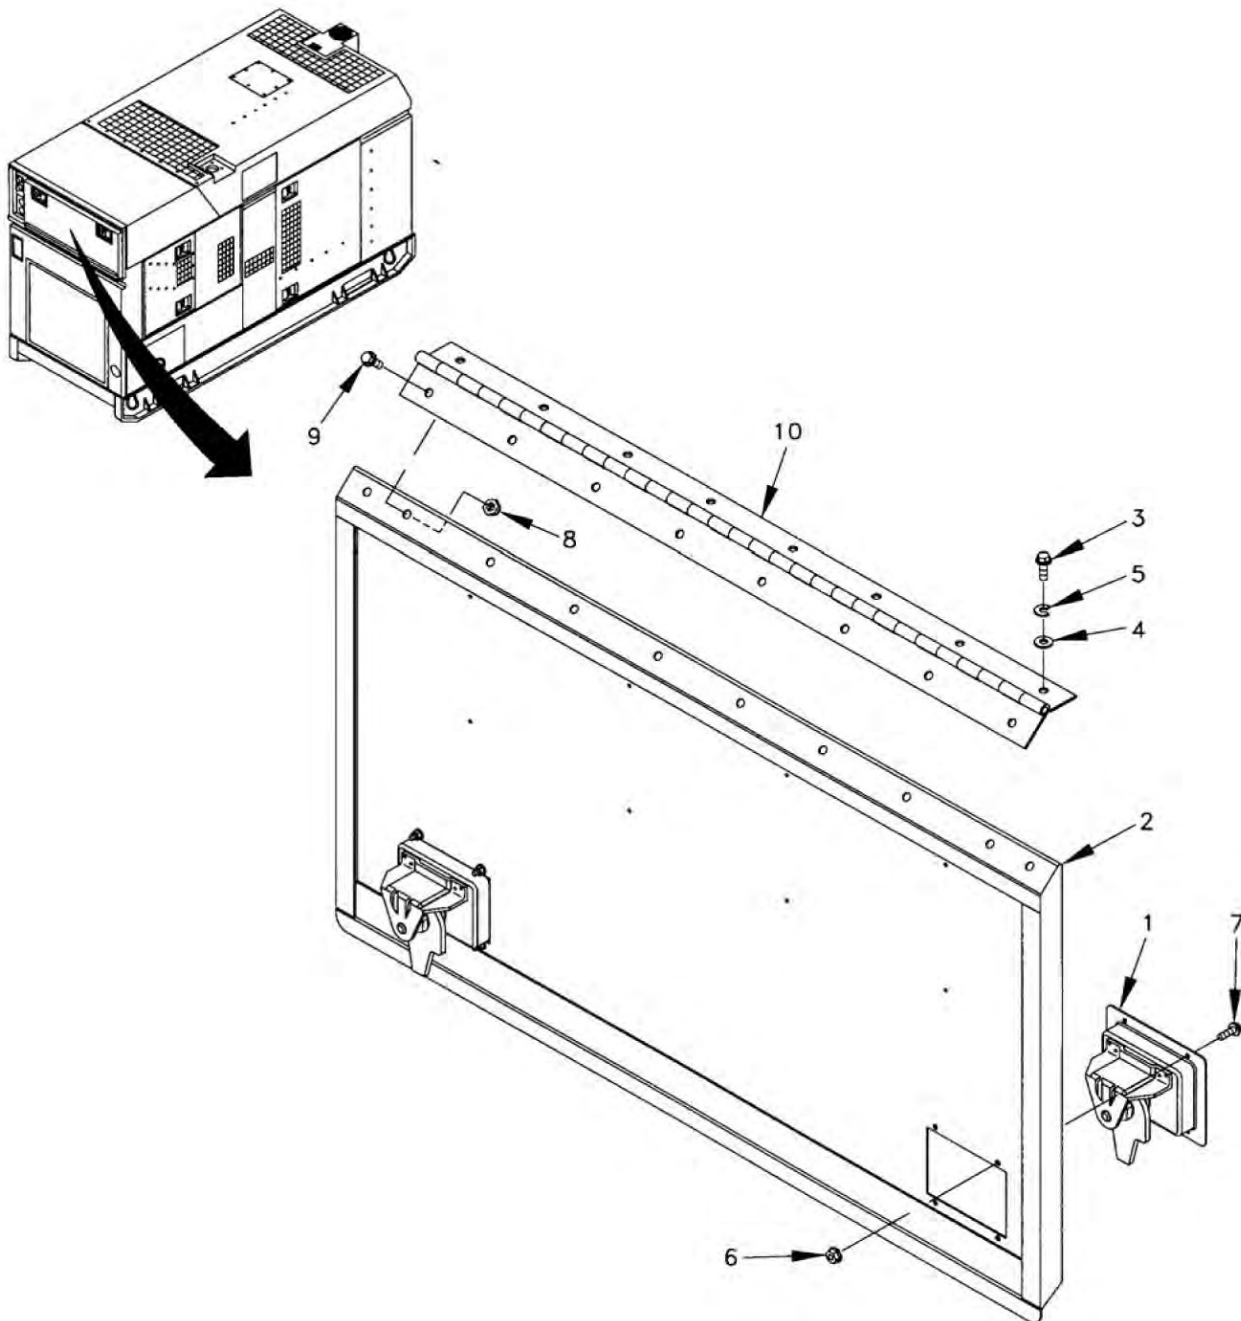

Figure 1. Control Box Door Assembly.
1. Turn two latches (Figure 1, Item 1) and open control box door (Figure 1, Item 2).
2. Remove eight screws (Figure 1, Item 3), washers (Figure 1, Item 4), lock washers (Figure 1, Item 5), and control box door and hinge (Figure 1, Item 2).
1. Remove eight nuts (Figure 1, Item 6), screws (Figure 1, Item 7), and two latches (Figure 1, Item 1).
2. Remove eight locknuts (Figure 1, Item 8), screws (Figure 1, Item 9), and hinge (Figure 1, Item 10).
1. Install hinge (Figure 1, Item 10) on control box door (Figure 1, Item 2) and secure with eight screws (Figure 1, Item 9) and locknuts (Figure 1, Item 8).
2. Install two latches (Figure 1, Item 1) and secure with eight screws (Figure 1, Item 7), and nuts (Figure 1, Item 6).
1. Install control box door and hinge (Figure 1, Item 2) and secure with eight lock washers (Figure 1, Item 5), washers (Figure 1, Item 4), and screws (Figure 1, Item 3).
2. Close control box door (Figure 1, Item 2) and secure by rotating and closing two latches (Figure 1, Item 1).